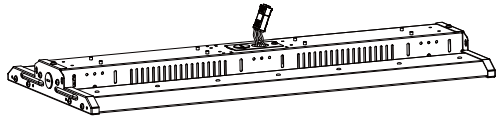
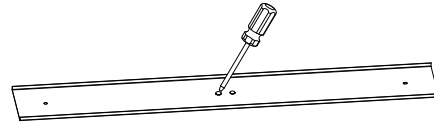

Figure12
Figure13
Step1. Knock off the knockout hole on the back of the fixture, take out the wires from the knockout hole (Figure. 12), open the front cover of the fixture, and knock out the two knockout holes on the cover (Figure. 13);